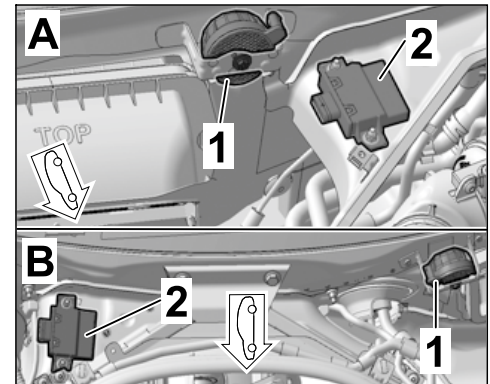

Figure 7
– Installation positions on LHD vehicle (⇒ *Figure 7*
- 2.1 Position engine noise control unit on M6 studs (2 x) in the plenum panel and secure with two M6 hexagon nuts (⇒ *Figure 7*).
- 2.2 Guide pin on underside of engine noise pulse sender into the bore on the holder in the plenum panel. Secure engine noise pulse sender, **facing the windshield**, with an M6 hexagon nut **in the plenum panel holder** (⇒ *Figure 7*).